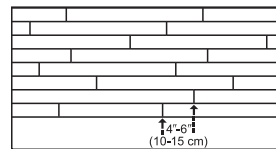

Figure 11
- Check for a tight fit between all edges and ends of each plank. End-joints of adjacent rows should be staggered 4-6 in. (10-15 cm) when possible, to ensure a more favorable overall appearance (Figure 11).